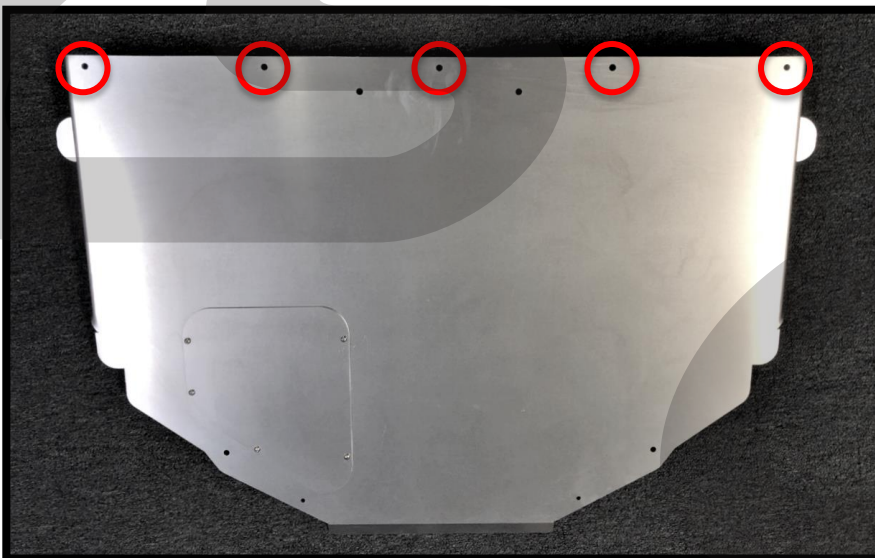
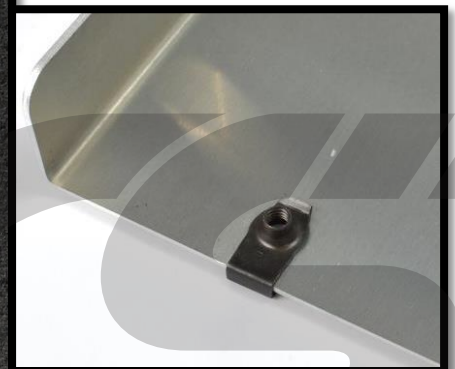

Figure 2c
Figure 2d
- b) Install five (5) extruded U-nuts onto the five holes in the rear section of the CorkSport skid plate. Circled in red in **Figure 2c**. Ensure the orientation of the U-nuts matches **Figure 2d**, with the threaded portion on the same side of the plate as the bends.